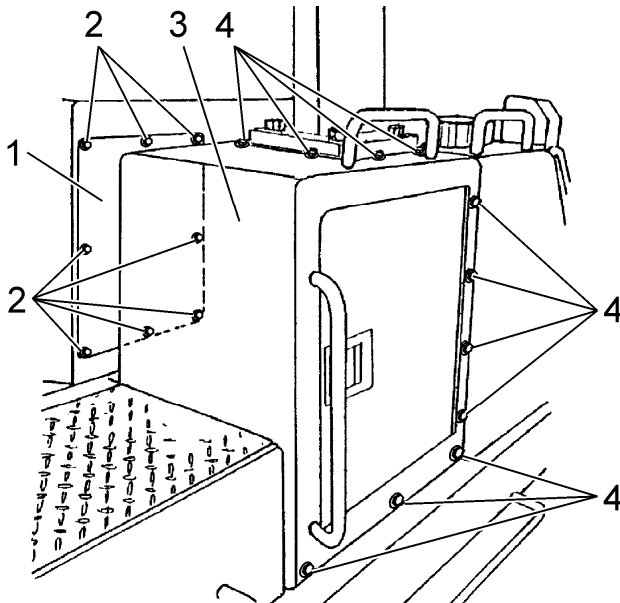

Fig. 7C.16. Disassembly Access Cover to Drive Train Control Valve
2. Unscrew bolts (2) and remove access cover (1) in order to obtain access to mounting points of the drive train control valve.
3. Disconnect the electrical wire (5, Fig. 7C.17) from the filter base. Unscrew bolts (2) fastening filter base to the filter bracket (3) and allow the filter (4) to be supported by the hoses.